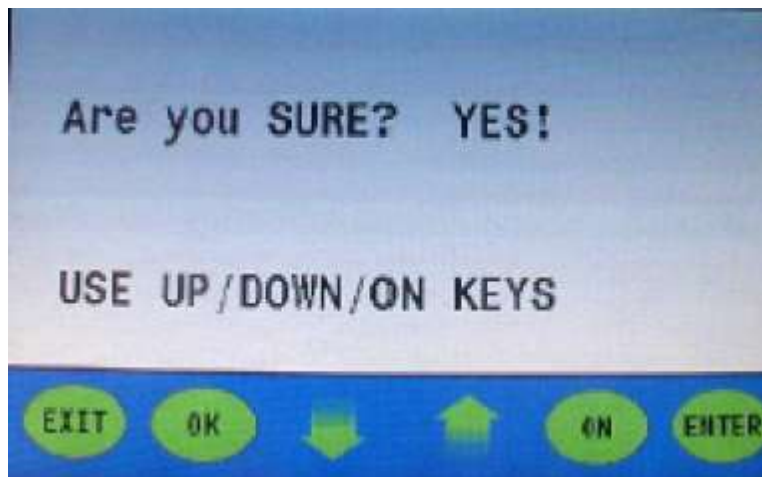

Figure 4
4. Using the **up** or **down arrows**, switch to "**yes**" (figure 4).
5. Press "**on**" to enter "**yes**" (figure 4).
6. Press the **exit button** twice (2) to return to main screen (figure 4)